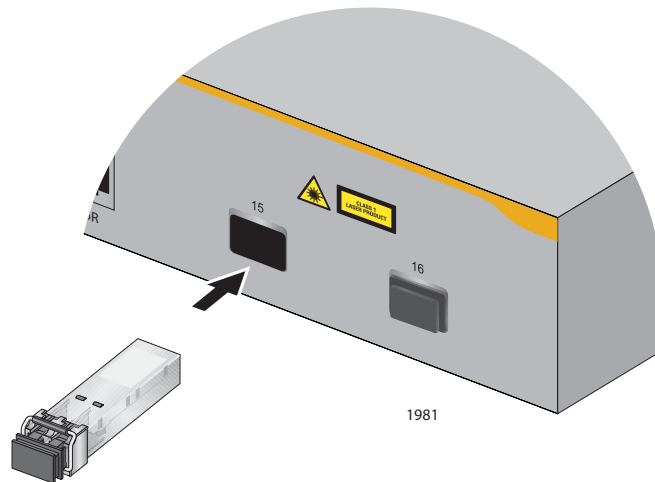

Figure 28. Inserting the SFP on an AT-x210-24GT
4. For an AT-x210-24GT Switch, gently slide the transceiver into the SFP slot until it clicks into place, as shown in Figure 28.